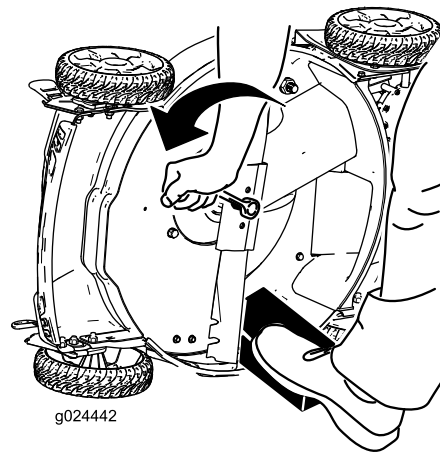

Figure 29
3. Use a block of wood to hold the blade steady (Figure 29).
4. Remove the blade by turning the blade bolt counterclockwise, saving all mounting hardware to install the new blade (Figure 29).